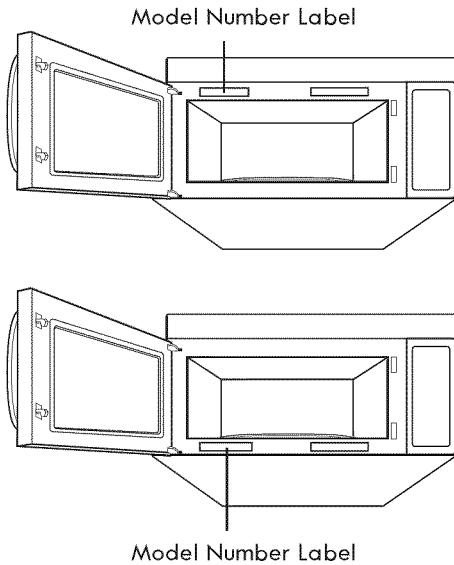

Figure 1
- The model number label is located on the oven front of oven behind door. See Figure 1.